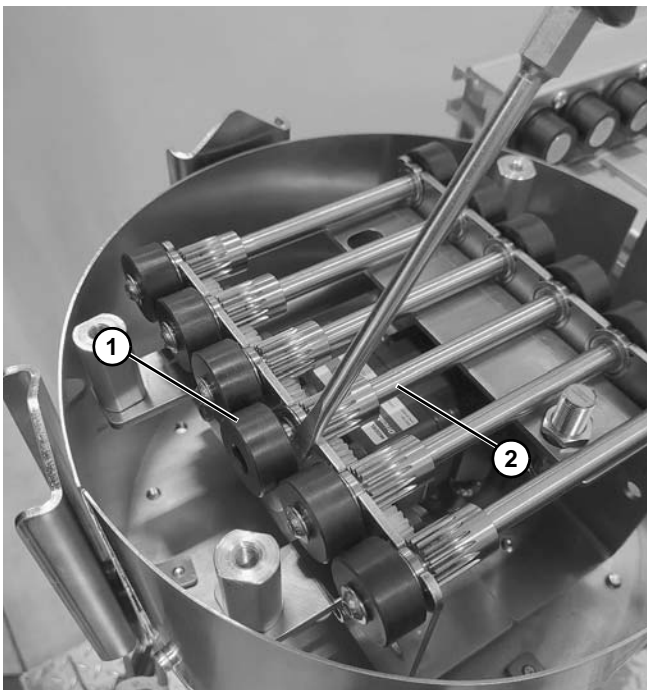

Figure 136
4. Pry roller (Figure 136, item 1) from shaft (Figure 136, item 2).